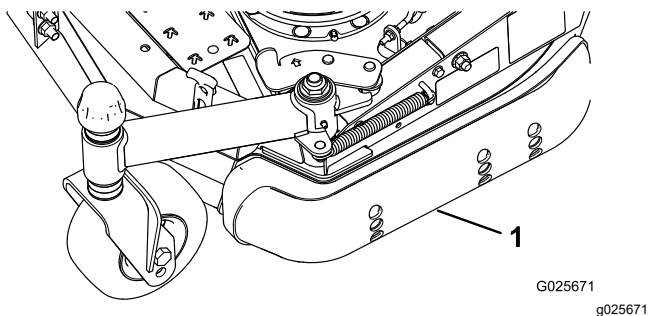

Figure 6
3. Loosen the screw at the front of each skid. (Figure 6).